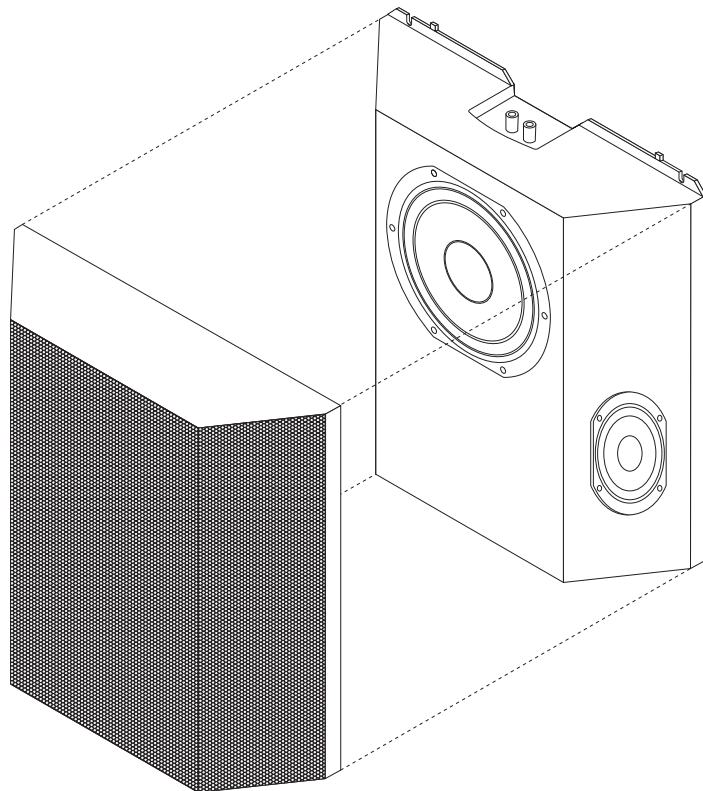

Figure 3
1. Remove the front grille from the HT30-OW by gently pulling it forward. Refer to figure 3.